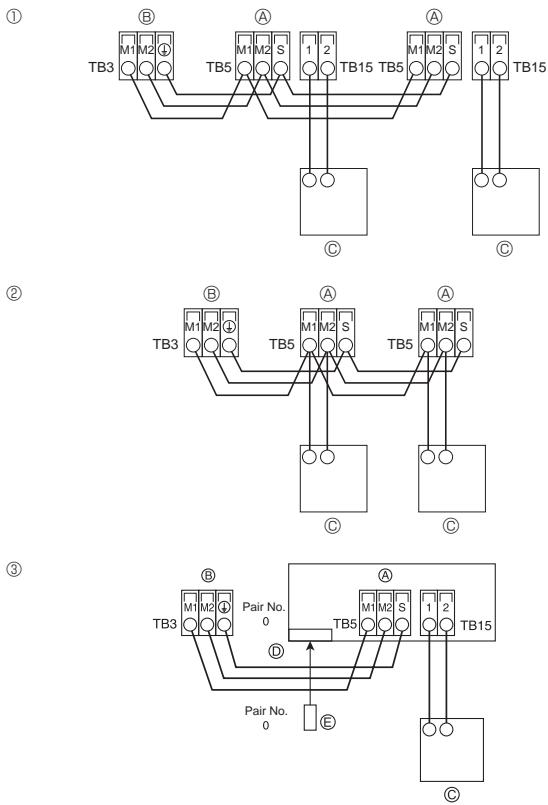

Fig. 6-3
6.4. Connecting remote controller, indoor and outdoor transmission cables (Fig. 6-3)
① MA Remote controller
② DC 9 to 13 V between 1 and 2 (MA remote controller)
③ DC 24 to 30 V between M1 and M2 (M-NET remote controller)